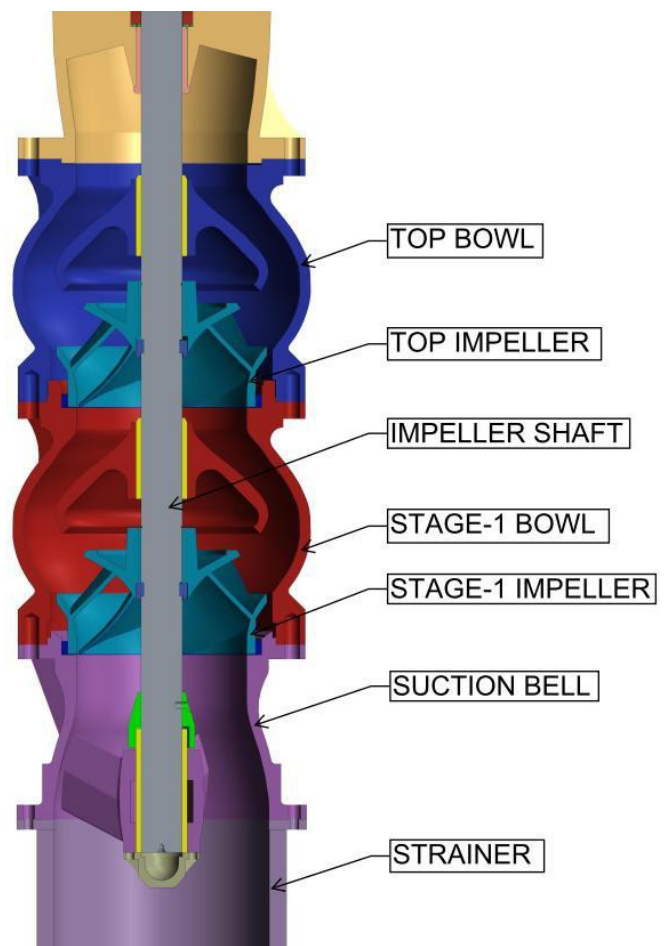

Figure 33 – Multi Stage Bowl Assembly
- Multi Stage where there are multiple Bowls and Impellers in Bowl Assembly. Refer Figure 33